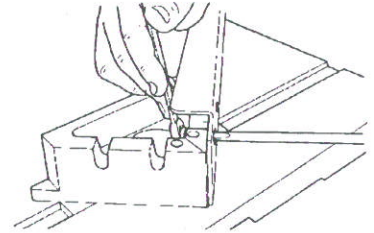

Fig.7
6. Using the large Phillips screw driver and 7/16" open end wrench, securely tighten the screws and nuts on both extensions. See Fig.7.